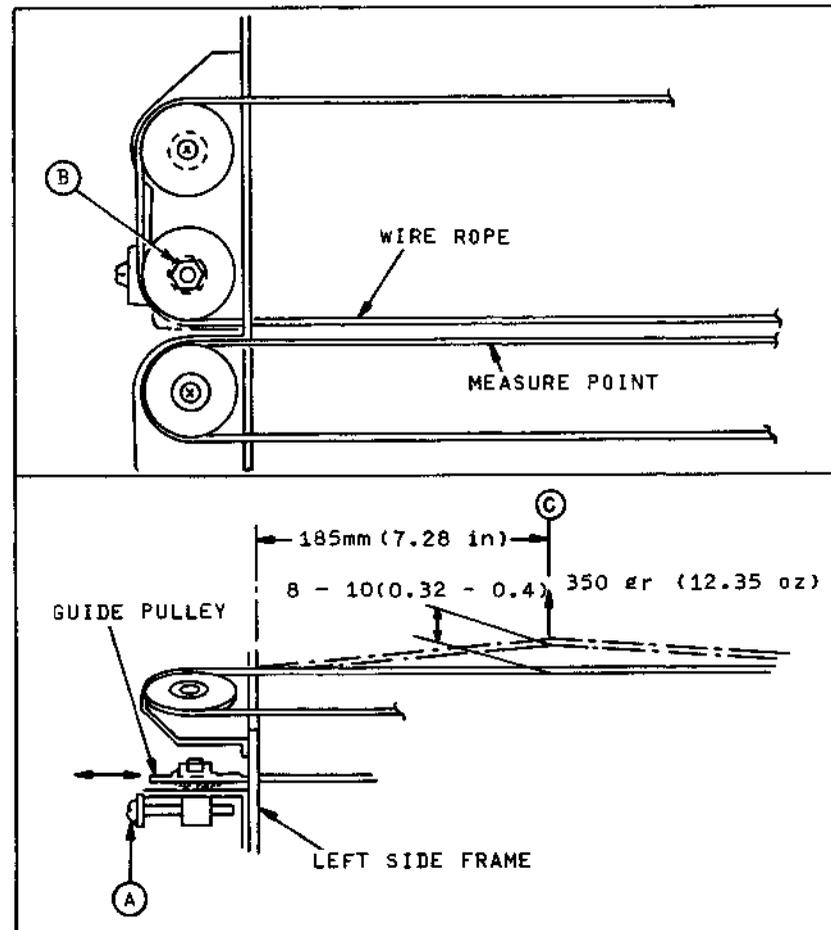

Figure 5-17 Wire Rope Adjustment
5.14 WIRE ROPE TENSION ADJUSTMENT (Figure 5-17)
- a. Loosen nut B (Figure 5-17) on the left side guide pulley.
- c. Pull up on the wire rope at a point (C) 185 mm (7.28 in) from the left side frame with a spring force of 350 grams (12 1/4 oz.).